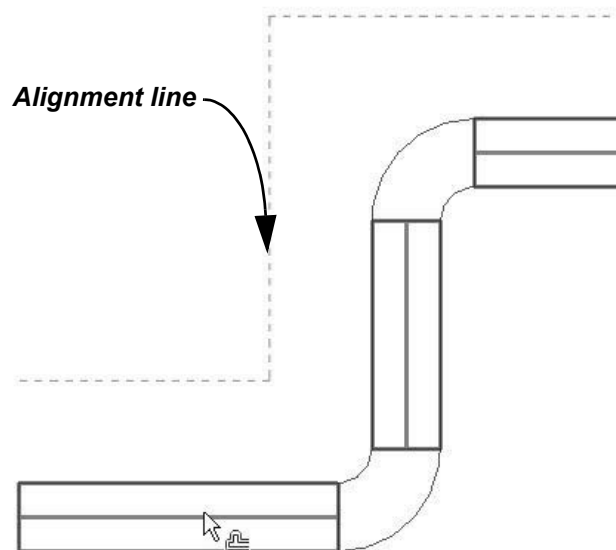

Figure 2–101
- With the **Numerical** option, you can select multiple connected linear elements for offsetting. Hover the cursor over an element and press <Tab> until the other related elements are highlighted, as shown in Figure 2–101. Select the element to offset all of the elements at the same time.